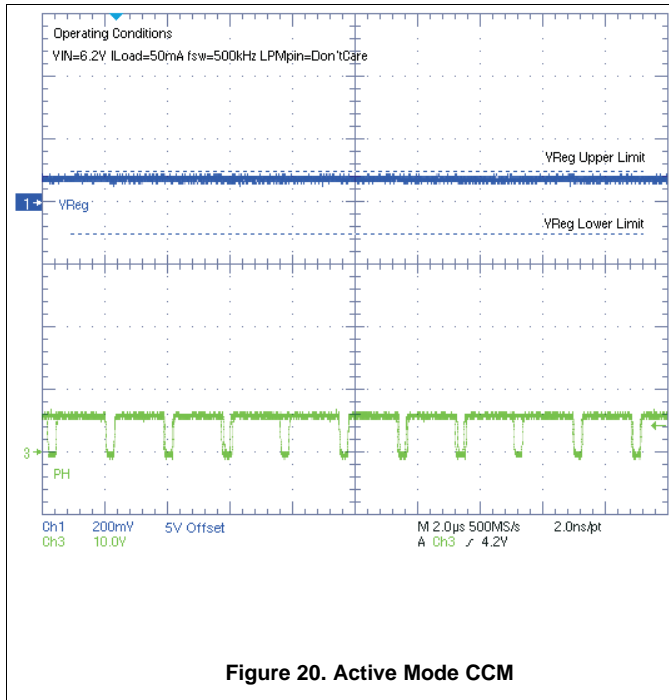
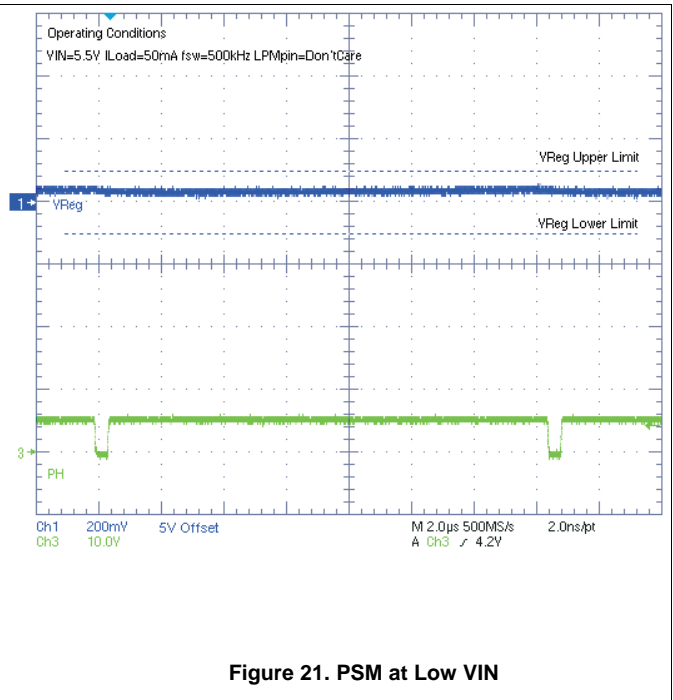

Figure 20. Active Mode CCM
Figure 21. PSM at Low VIN
- At low input voltages when  $V_{Reg}$  starts losing regulation and the OFF time ( $t_{OFF}$ ) of the switching FET tends to be close to or slightly less than the minimum OFF time ( $t_{OFF-Min}$ ). If OFF time is much smaller than  $t_{OFF-Min}$ , there is a risk that the part stops switching and regulation is lost until power is re-cycled with OFF time greater than  $t_{OFF-Min}$ . This mode of operation is shown in Figure 21. Comparing Figure 20 and Figure 21, pulse skipping occurs in Figure 21 but not in Figure 20 under similar output loading conditions.